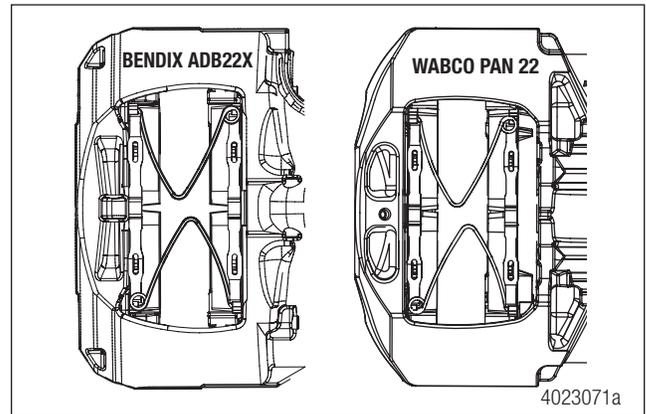

Figure 2
9. With the brake fully de-adjusted, install the assembled pads and springs into the caliper, over the rotor. Figure 2.